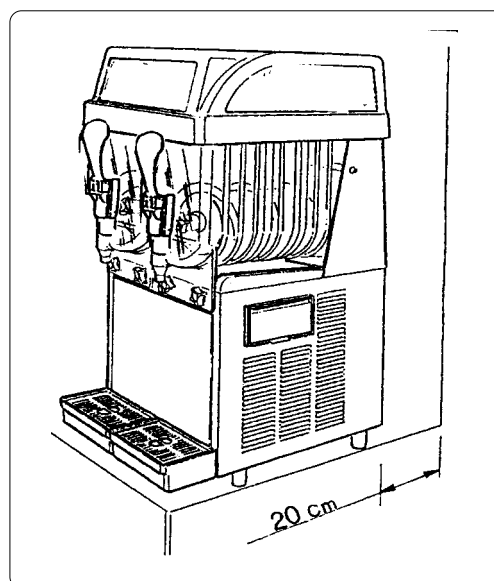

Fig. 2
- make sure the bodywork is positioned in such a way as to ensure it is aired and avoid installing it near heat sources. You are advised to maintain a room temperature of between 15 and 25 °C (fig. 2).